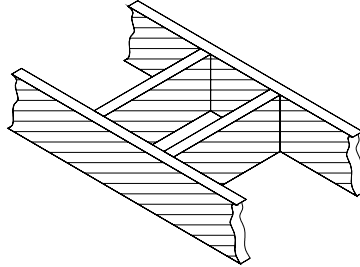

Figure 23
1. Cut and frame the holes in the ceiling, floor and roof where the chimney will pass (see figure 23). Use a plumb bob to line up the center of the holes. Make sure that the size of the floor and ceiling holes are in accordance with the chimney manufacturer's instructions.